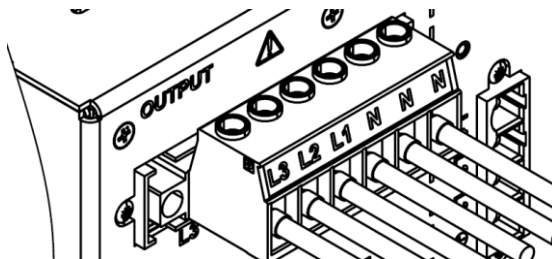

Figure 7-20: Tightening the Connector to the Power Source
6. Tighten the connector to the power source rear panel as shown in **Figure 7-20** using a tightening torque of 2.6 Lbf-inch (0.3Nm).